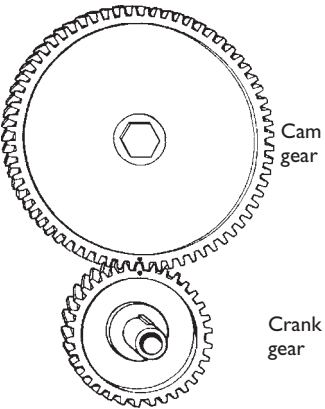

Figure 5.12 Camshaft drive gears
- Camshaft drive gears (Figure 5.12). Gears are not used very often on petrol engines, but are used on larger diesel engines where they ensure a good positive drive from the crankshaft gear to the camshaft.